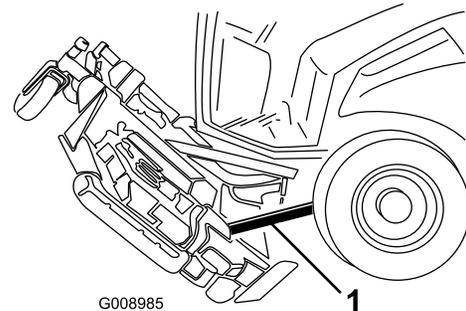

**Figure 134**
4. Remove the hairpin cotter and clevis pin securing the height-of-cut chains to the rear of the cutting unit (Figure 134).